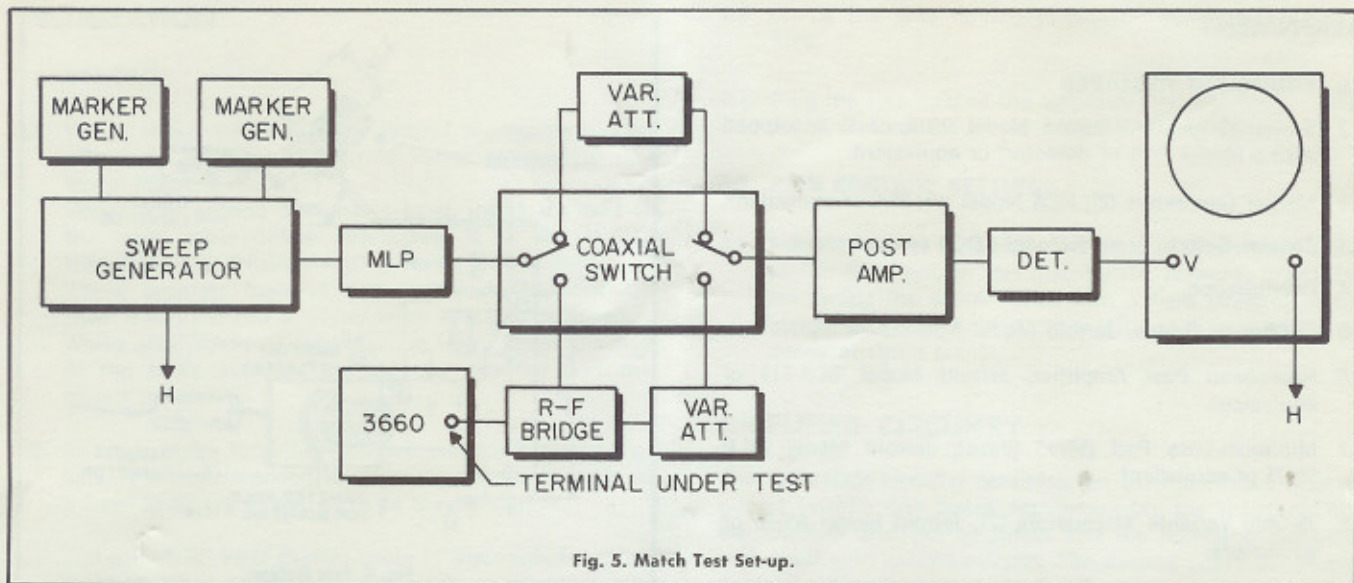

Fig. 5. Match Test Set-up.
- 2.6 Connect equipment as shown in Fig. 5. Connect the r-f bridge to the HIGHBAND OR BROADBAND terminal, and terminate the LOWBAND AND FM fitting and the test fixture with TR-72F's.
- 3.4 Connect equipment as shown in Fig. 5. Connect the r-f bridge to the 3660 OUTPUT terminal and terminate the test fitting.